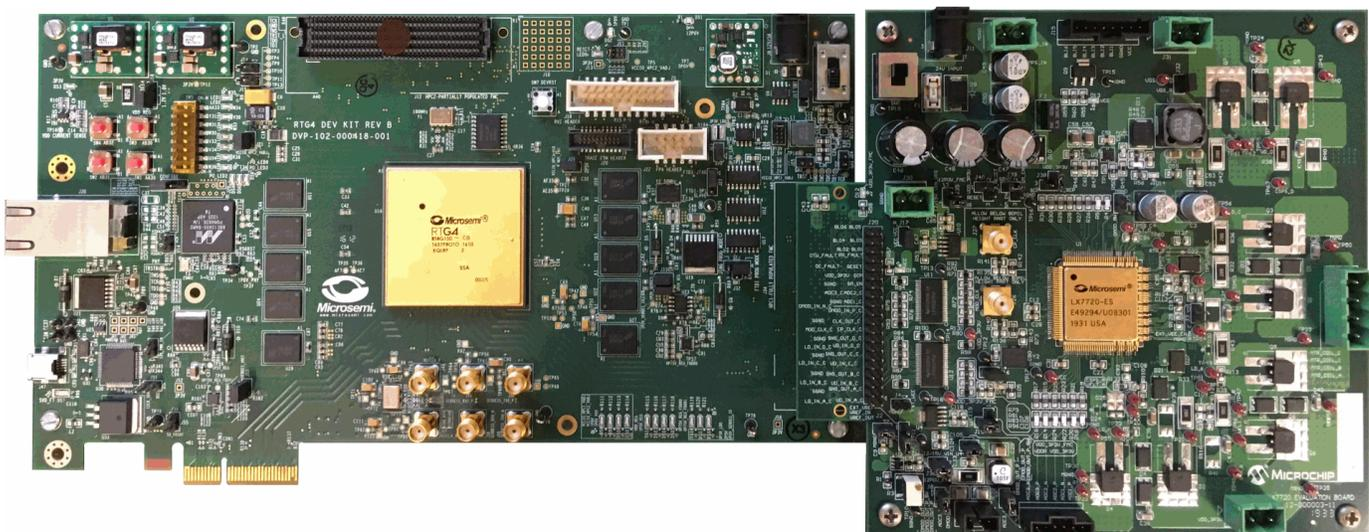
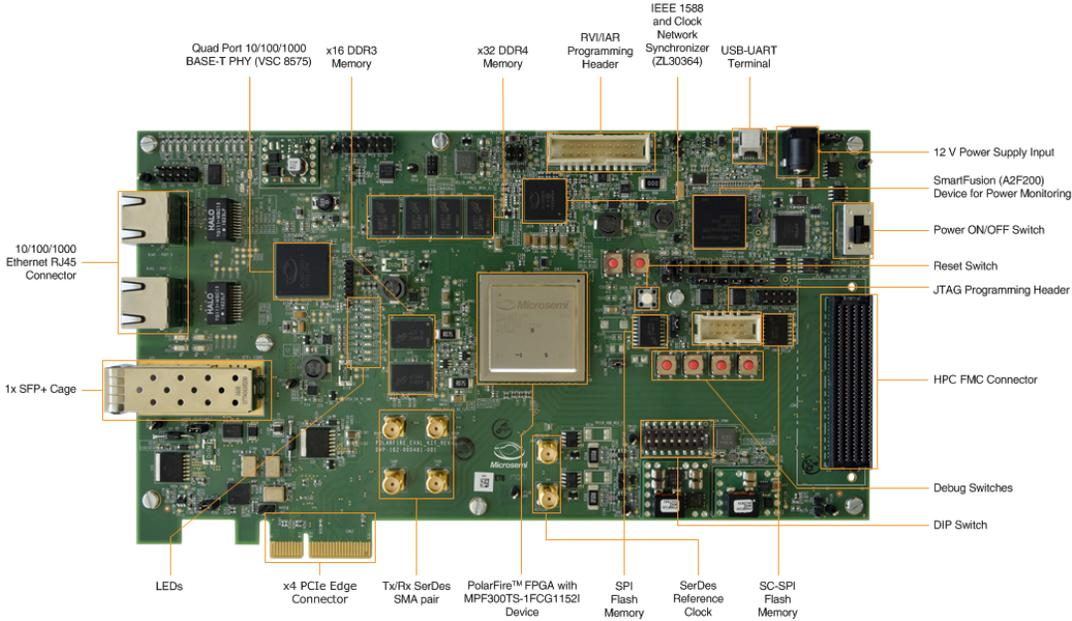

Figure 1. LX7720 Daughter Board Connected to RTG4 DEV-KIT using the FMC Connector
Figure 2. PolarFire MPF300-EVAL-KIT Evaluation Kit Board with 300K LE PolarFire FPGA in an FCG1152 Package
The LX7720 daughter board uses an FMC connector for plug-in connection to the RTG4 FPGA DEV-KIT (Figure 1) and PolarFire FPGA MPF300-EVAL-KIT (Figure 2 on page 2) development boards. A 40-way header provides the same signals for connection to other boards such as the ProASIC3 FPGA Starter Kit (Figure 3 on page 2), the SAMRH71F20 MCU Evaluation Kit (Figure 4 on page 2), and the SAMV71Q21RT MCU SAM V71 Xplained evaluation kit.
- Connect the LX7720 daughter board to the RTG4 board through the FMC connectors (Figure 1 on page 1)